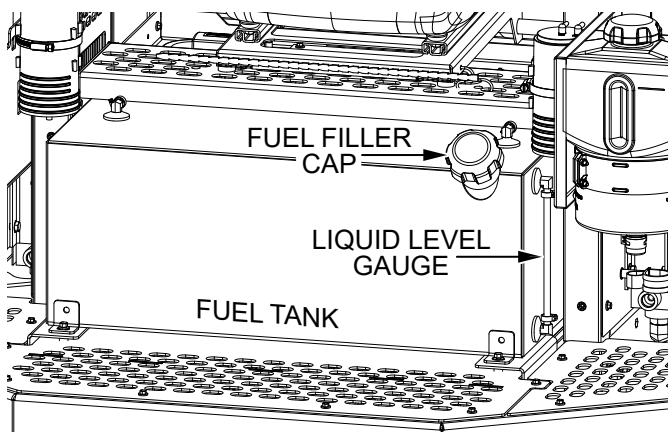

Figure 18. Fuel Level Inspection
2. Visually inspect the **liquid level gauge** on the side of the **fuel tank** (Figure 18).
3. If fuel is low, remove the **fuel filler cap** (Figure 18) and fill the tank with 86 octane or higher unleaded gasoline. **DO NOT** overfill. The fuel tank holds 20 gallons (75.7 liters) of gasoline.